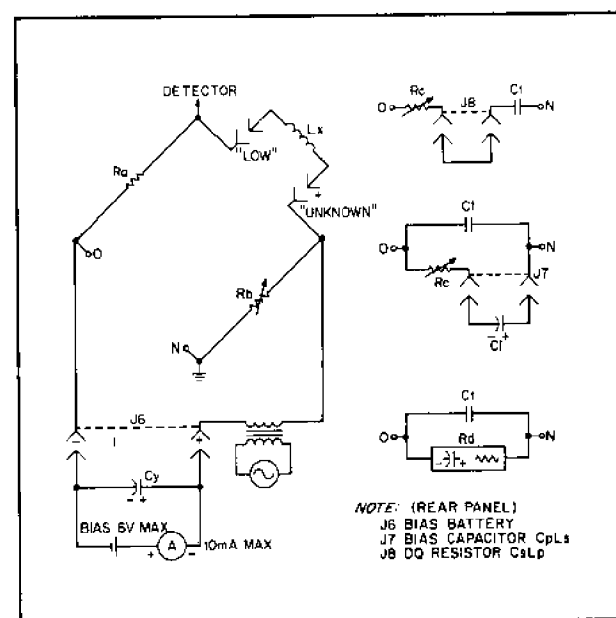

Figure 3-6. Dc Biased Inductance Measurement
measurement. Figure 3-6 schematically illustrates the dc bias application. Operating procedure for dc-biased measurements is described below and pictorially shown in Figure 3-6. The following equipment will be required:
a. Connect the measurement setup as shown in Figure 3-6. Ground only the 4260A cabinet to power line ground.